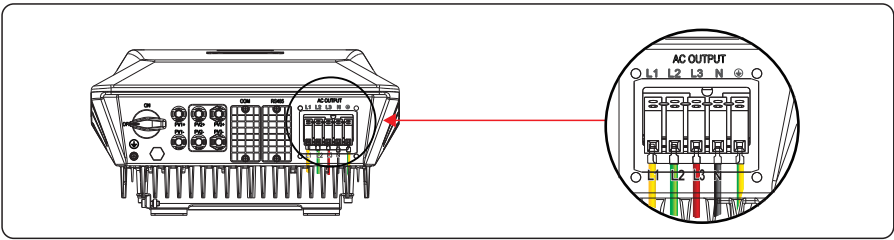

Figure 5.7 Tightening AC cable
**Step 4** Connect the AC output cable to L1, L2, L3, N, and E on the AC terminal block, tighten them using screw driver and the required torque is 1.5 N·m, shown as in Figure 5.7.